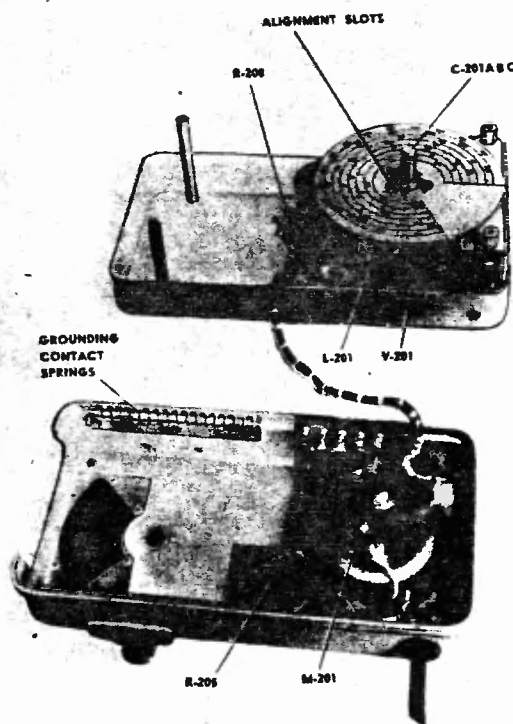

Figure 5-1. Internal View of Tuning Head
5-3. SYSTEM TROUBLE ANALYSIS. If the meter reading is below 40 percent when following the instructions given in paragraph 5-2, it indicates that the overall sensitivity of the test oscillator set is below the required minimum standard. The most likely cause is weakening of electron tube (V-201, figure 5-1) in the tuning head.
b. Slide off the contact of choke coil assembly (L-201, figure 5-1) from the open pin of electron tube (V-201).
the shaft of variable resistor (R-208, figure 5-1) turns when variable capacitor (C-201ABC) is tuned. Check the insulation between variable resistor (R-205) and tuning head case. The variable resistor case may have worn through the insulation due to vibration.
5-6. Check meter (M-201, figure 5-1) by connecting a 750,000-ohm resistor to the "+" terminal. Connect the positive side of the 28-volt d-c supply to the resistor. Touch the other side of the 28-volt d-c supply to the other meter terminal. A deflection of about 40 percent should result. An exact reading is not expected because of normal variation in resistors and supply voltage.
quency dial readings do not agree, adjust the repaired unit's frequency dial position. Loosen the three screws in the slotted holes in the frequency dial and shift the dial on the shaft. When either capacitor (C-201ABC, Figure 5-1) or variable resistor (R-208) are replaced, turn both their shafts fully counter-clockwise. Then turn the shaft of variable resistor (R-208) clockwise, the distance of one gear tooth. Then tighten gear set screws.